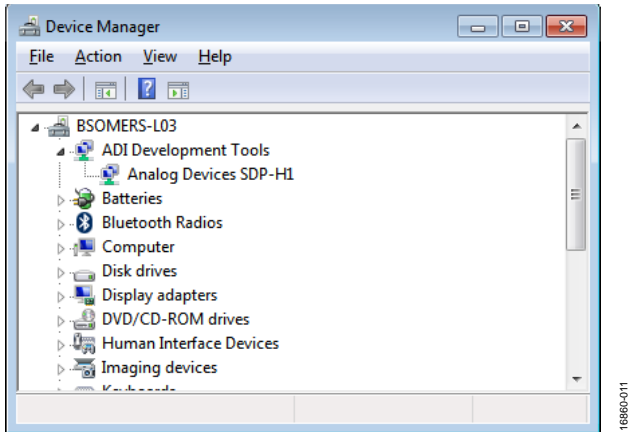

Figure 11. *Device Manager* Window
- If the **EVAL-SDP-CH1Z** driver software is installed and the board is connected to the PC correctly, **Analog Devices SDP-H1** appears nested under **ADI Development Tools** in the **Device Manager** window, as shown in Figure 11.